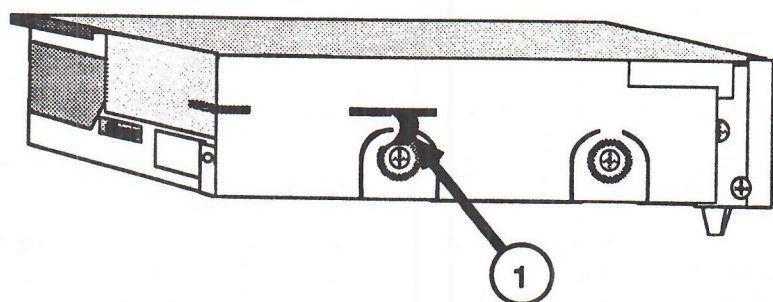

FIGURE 7
- b) Position the ground clip over the screw hole and replace the screw to secure it to the disk drive chassis. Slide the top of the clip into the slot as shown in Figure 7, #1.